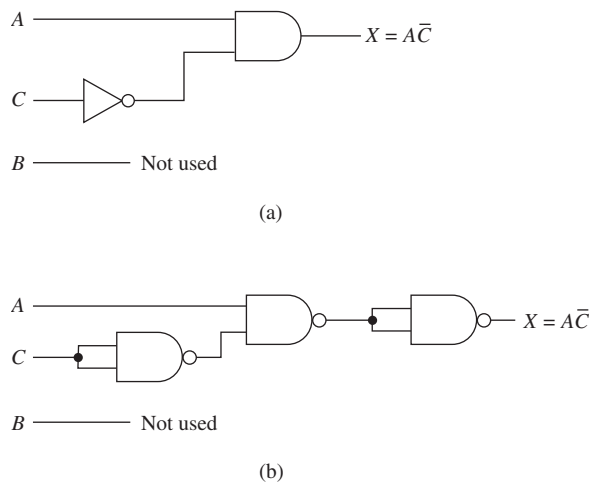

Figure 79 (a) Logic circuit that yields the waveform at X; (b) circuit of part (a) redrawn using only NANDs.
- (b) The logic circuit is shown in Figure 79(a).
- (c) Redrawing the same circuit using only NANDs produces the circuit shown in Figure 79(b).